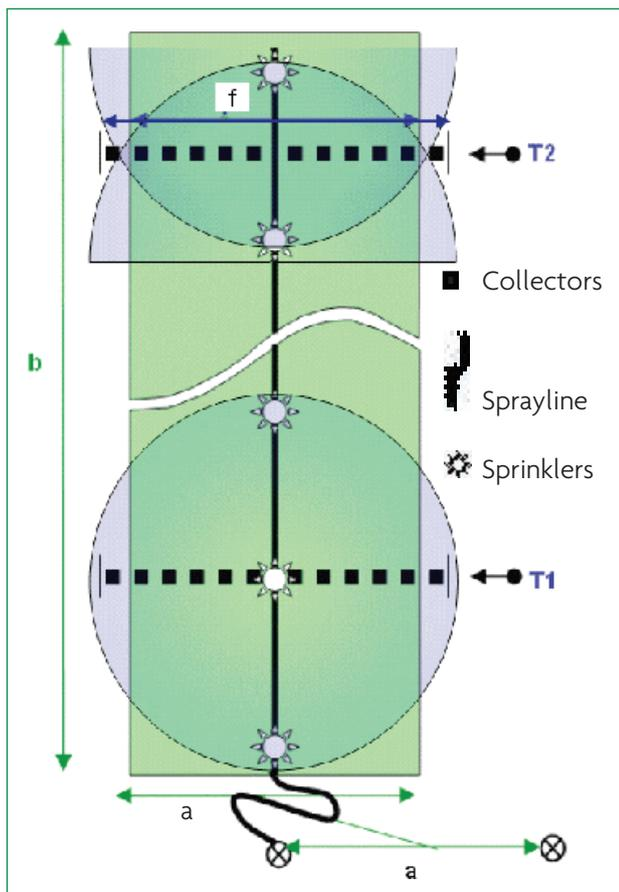

Figure 2.1. Sprayline calibration layout
2. Repeat on the other side of the set. The two markers define the Irrigated Strip or Lane (see “a” in Figure 2.1)
3. Mark the extent of obvious wetting when the irrigation runs. This is the “Wetted Width” (f in Figure 2.1)